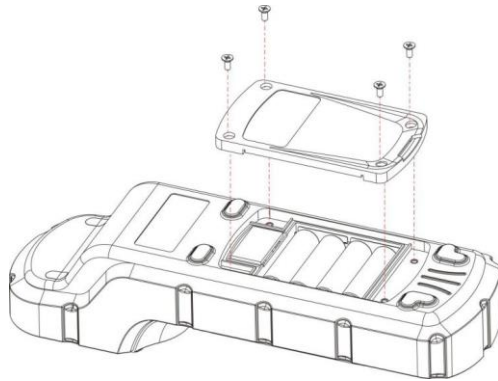

Figure 4 Replace Batteries
The SP-800 battery compartment, shown in Figure 4, is on the back side of the instrument. Insert a small pad underneath the screen area to make the back-surface level when the instrument is turned upside down. Install batteries as followings:
2. Insert four batteries into the battery holder as shown in Figure 4. Make sure the positive battery polarity marker (+) is aligned with the positive marker (+) on the battery holder.